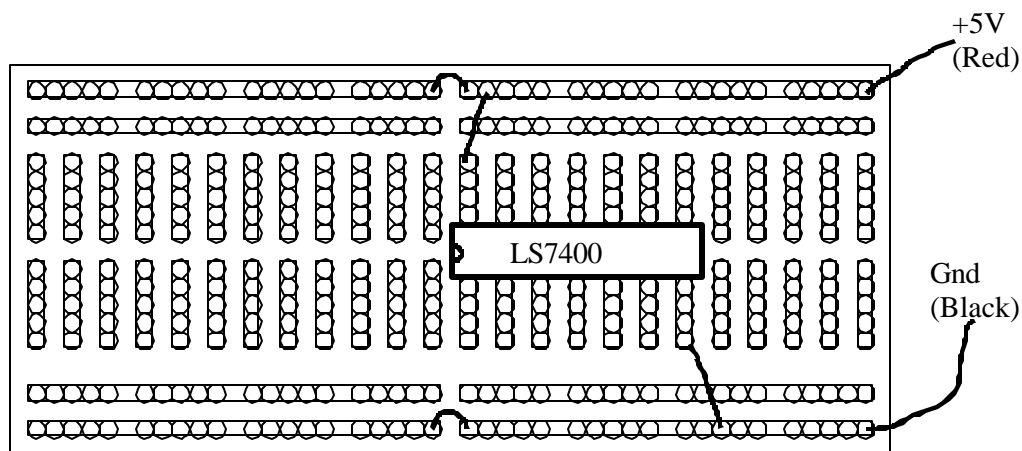

Figure 3: Sample breadboard wiring.
- Place IC chips across the center gap between the short columns. Place all the IC chips in the same orientation. Use the orientation that matches your power and ground connections. If the power is on the top row, then the chips should be placed such that the  $V_{cc}$  pin is towards the top. Make sure they are well seated in the breadboard. Don't forget to use a chip extractor when removing the chips to avoid damaging the pins. As soon as you place the chips in the breadboard, connect the power and ground wires lest you forget. Figure 3 shows the basic wiring configuration for a single IC chip.